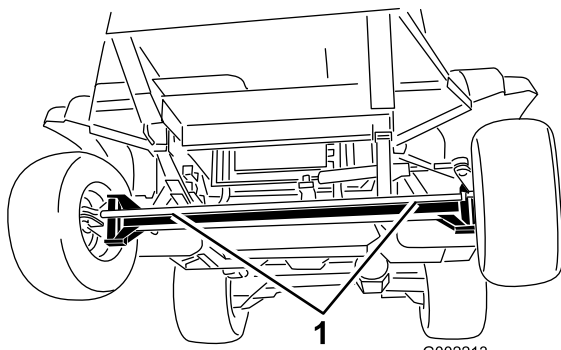
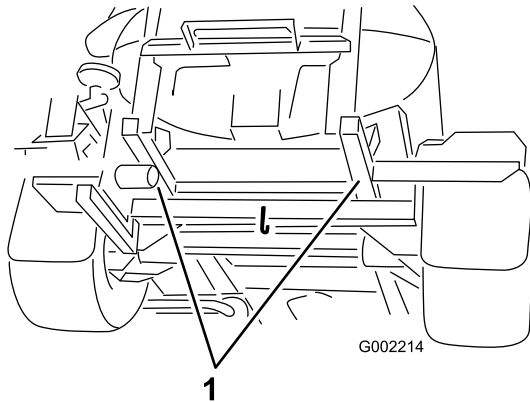

Figure 56
Figure 57
- Affix a tow line to the frame; refer to the front and rear towing points (Figure 56 and Figure 57).